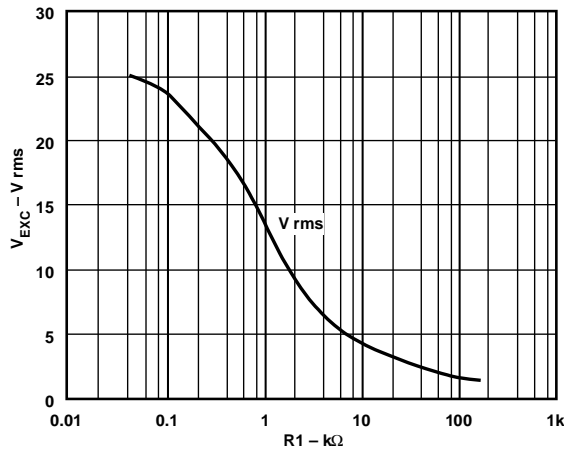

Figure 9. Excitation Voltage  $V_{EXC}$  vs.  $R1$
- Referring to Figure 9, for  $V_S = \pm 15 \text{ V}$ , select the value of the amplitude determining component R1 as shown by the curve in Figure 9.